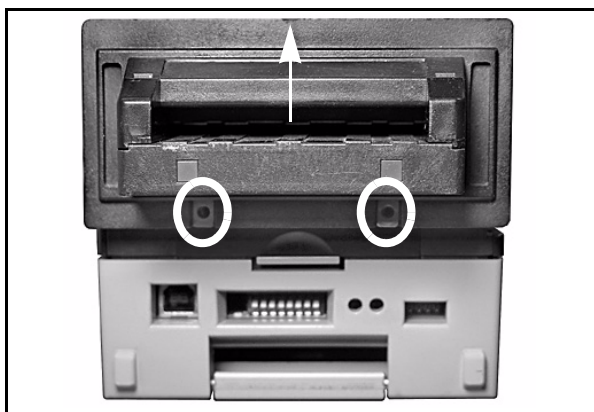

Figure 4 Original Bezel Removal
2. Remove the two screws at the front of the original bezel (See Figure 4 circles).